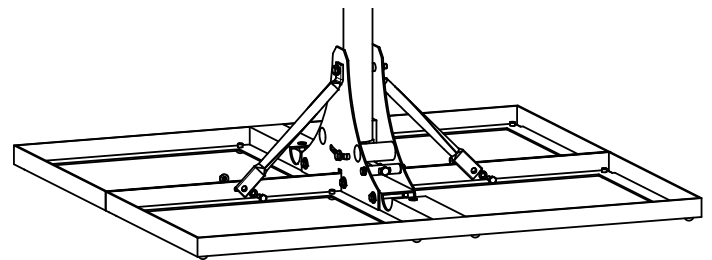

Abb. 5: Attaching the stabilising legs (2)
6. Attach the lower part of the stabilising legs using the M8 x 20 screws with a torque of 23 Nm (Fig. 5).